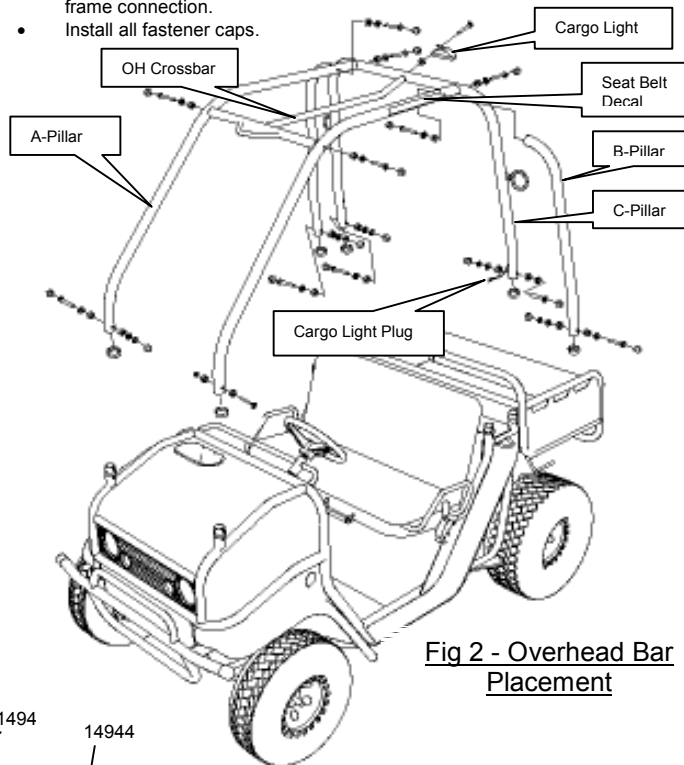

Fig 2 - Overhead Bar Placement
III. Overhead Bar Installation (Figs 2 and 3)
- Locate the **C-Pillar** and fasteners: (2) 14697, (4) 14837, (4) 14944, and (2) 14088. (Reference Fastener Illustration on page 2.)
- Locate the rubber connector seals (6) 14941, and rubber fastener caps (16) 14945 packaged in the customer hardware kit.
- Slip the connector seal on the ends of each overhead bar where it will connect to the main frame (ref Figs 2 and 3)
- Locate the **A-Pillars** and fasteners: (4) 14697, (6) 14837, (6) 14944, and (2) 14088. Install the connector seals as shown on the diagram below.
- Locate the **Overhead Cross Bar** and fasteners: (3) 14697, (3) 14837, (2) 14944.
- Locate the **B-Pillars** and fasteners: (4) 14697, (6) 14837, (6) 14944, and (2) 14088. (Note: *B-Pillars are universal RH/LH*)